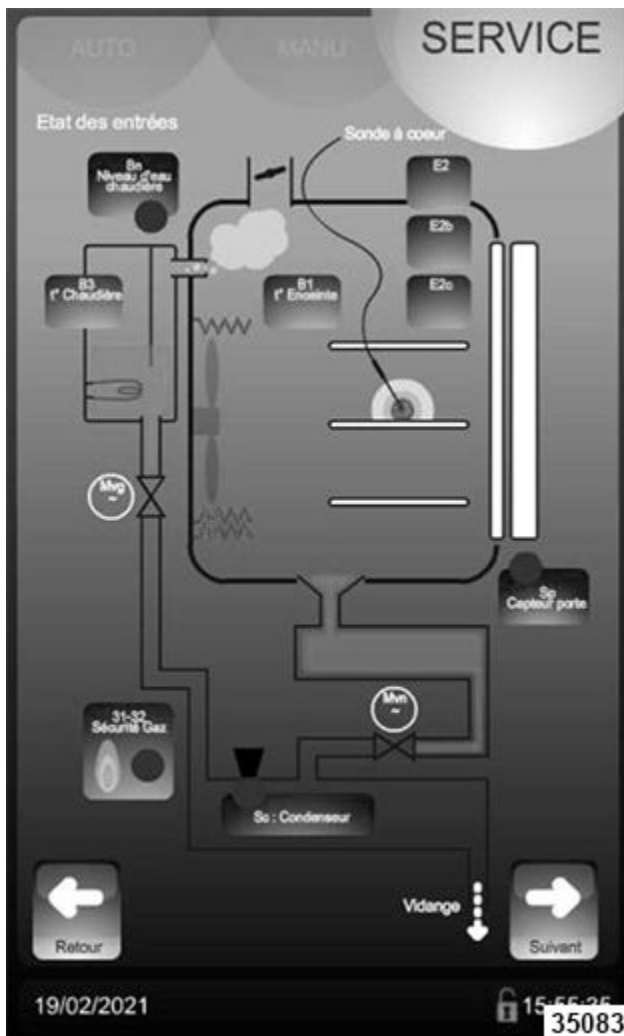

Fig. 145
- The **State of Inlets** screen (Fig. 145) provides the following indications: